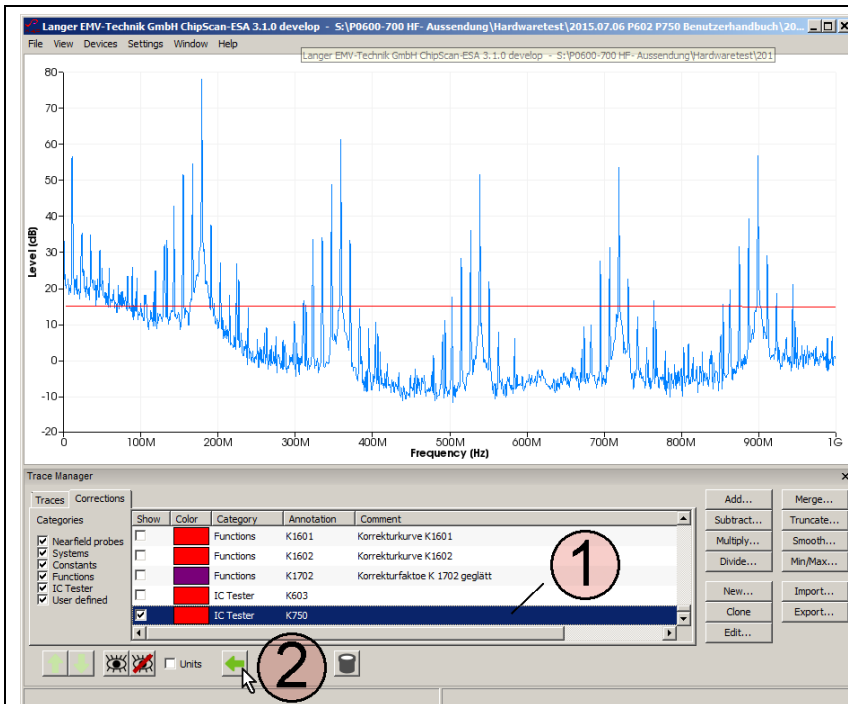

Figure 31: Correction after the measurement; copying K750 from the "Corrections" list to the "Traces" list.
Click the Select button (mouse cursor ① **Figure 31**) in the Correction area in the Spectrum Analyzer Manager to select the respective correction curve.